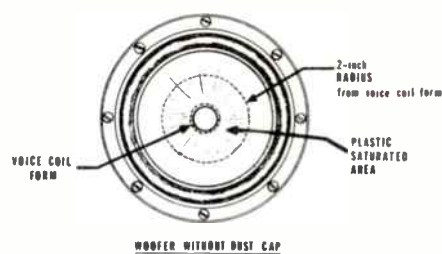

FIGURE 1: Modification begins with removal of dust cap and coating portion of the cone with plastic to gain rigidity.
*c. Using a commercially available liquid plastic such as Valspar^{6d}, soak the speaker cone through to a radius of two inches by carefully applying the plastic with a brush (see Fig. 1). Continue brushing until the cone material stops absorbing the plastic. You will know when because the plastic has soaked all the way through to the back side of the cone and the top surface is glazed and remains so. Allow to dry overnight or about 12 hours.